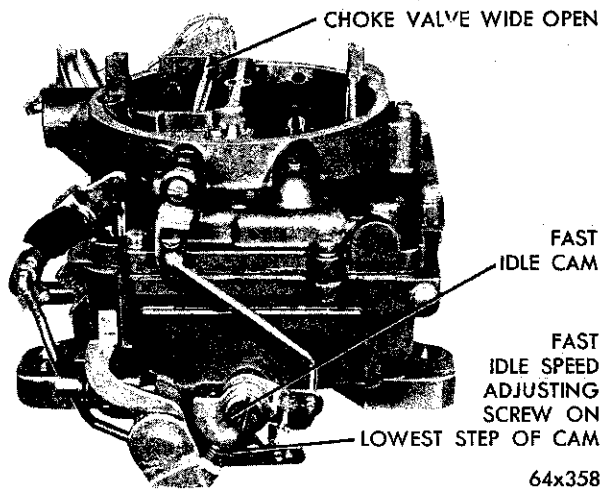

Fig. 21—Fast Idle Speed Adjustment (On the Engine)
(3) The fast idle speed adjusting screw should be contacting the lowest step on the fast idle cam, as shown in Figure 21.
(4) With the engine warmed-up to the normal operating temperature, turn the fast idle speed adjusting screw in or out to secure 700 rpm. **Reposition the cam and throttle after every fast idle speed screw adjustment.**